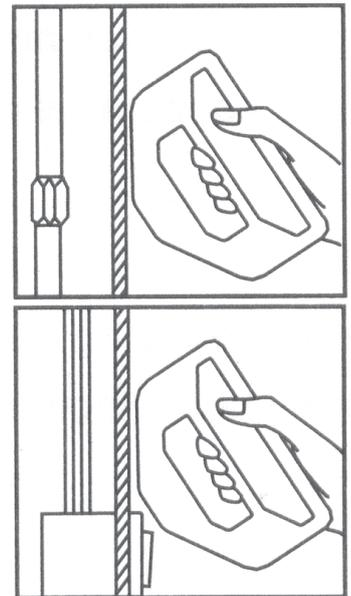

Fig.4
- 3.1.4. Hold the unit as shown in Fig. 4 and move it sideways (horizontally) across the wall. The red LED and a continuous buzzer tone will come on when a metal object is in the vicinity. A current carrying conductor will be shown with a RED blinking LED and a beeping sound from the buzzer.